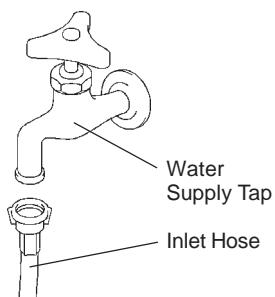

Fig. 8
2) Attach the other end of inlet hose to the water tap (Fig. 8), noting washer is correctly positioned before hand tightening as above. It is a wise precaution to have a stop valve within easy reach.
- 2) Attach the other end of inlet hose to the water tap (Fig. 8), noting washer is correctly positioned before hand tightening as above.